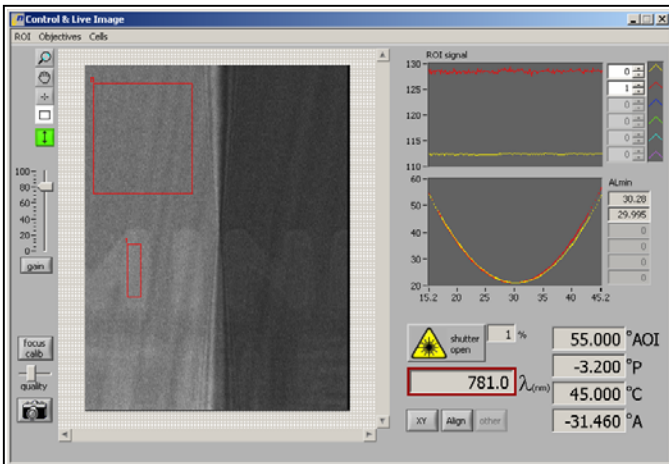

Fig.1: "Control & Live Image" with Regions Of Interest (boxes no. 0 and 1 in the ellipsometric contrast live image on the left)
The live-contrast-image (fig.1) is a micrograph of the sample where layer thickness is correlated with the greyscale. The sample is seen in real time when positioned by the XYZ-sample-stage. In a suitable position Regions Of Interest (ROIs) are set in the image. The measurement is done for all ROIs simultaneously. To this end the layer thickness variation in the field of view should be less than approximately 100 nm otherwise one is limited to one ROI at a time. Classic spectroscopic ellipsometers have at best about 40 µm lateral resolution with the microspot-option.
- Optimize the ellipsometric image contrast with the angles of analyzer and polarizer (fig.1)
- Set Regions of Interest (ROIs, boxes in fig.1) where to measure
Fig.4: Thickness profile (in nm, left) along red line in the thickness map (right, recorded within 1 minute, 4 μm lateral resolution) according to the sample area shown in fig.1 and 3.